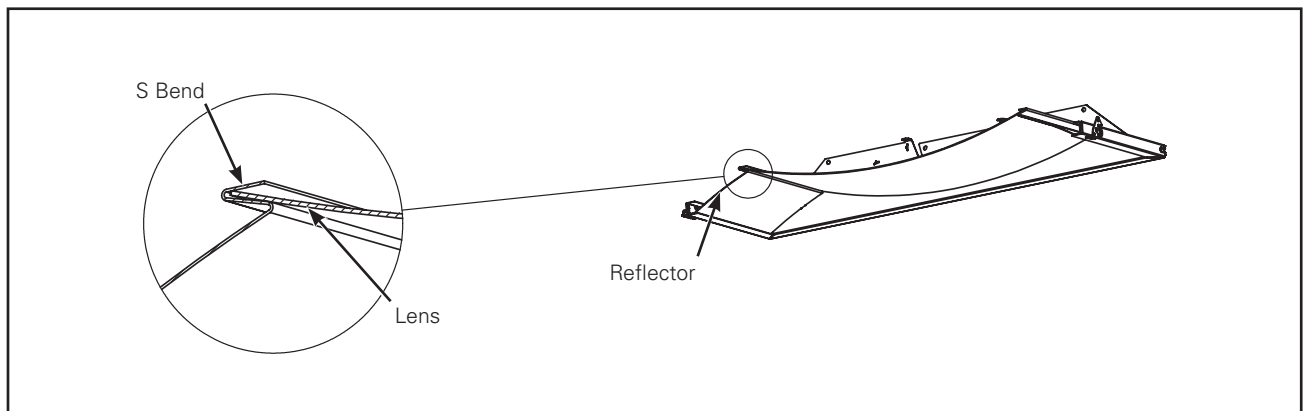

Figure 2. & 3. Section view
1. Bend the lens slightly inwards and place both horizontal edges in "S" bend feature of the reflector as shown in (Figure 2. & 3.)